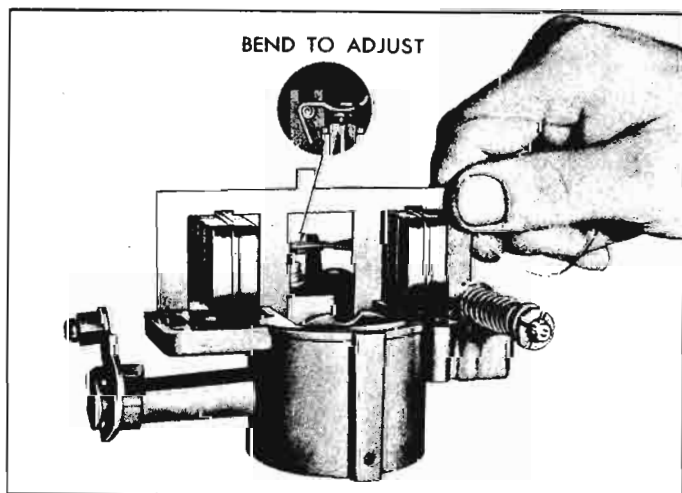
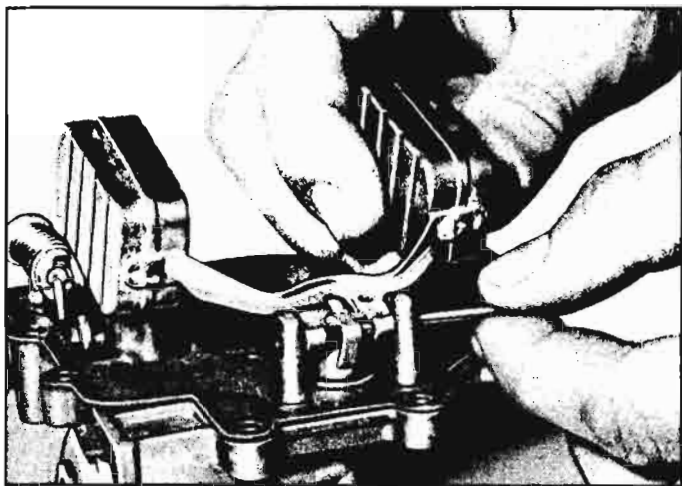

Fig. 9-24—Checking Float Level
Fig. 9-26—Replacing Floats
2. Invert the cover on a flat surface. Place float level tool in chain gauge set J-8370 over float as shown in Figure 9-24.
8. Install a new gasket and replace float and pin (fig. 9-26). Check float level and float drop with Tool J-8370 (figures 9-24 and 9-25).